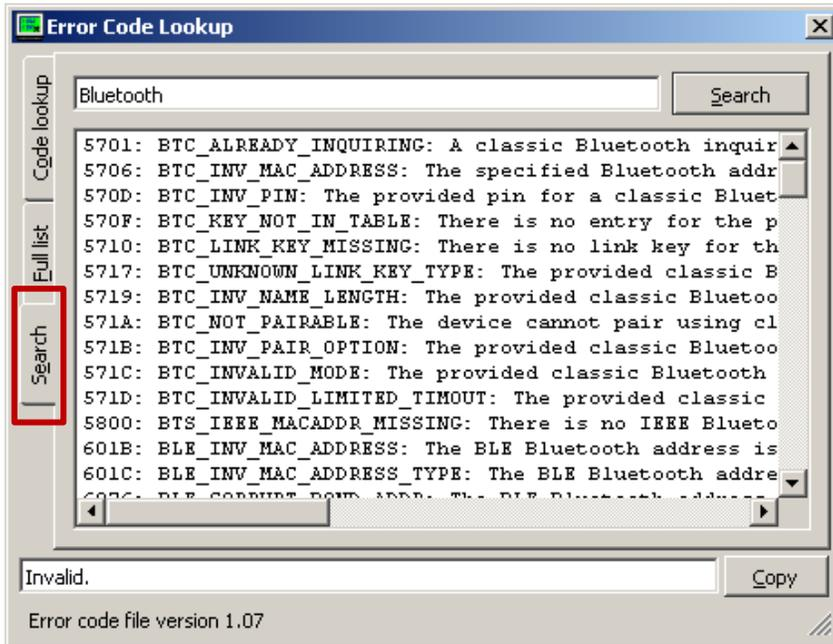

Figure 7: Error code search
- **Search** – Use the Search feature to locate the applicable error code (Figure 7).